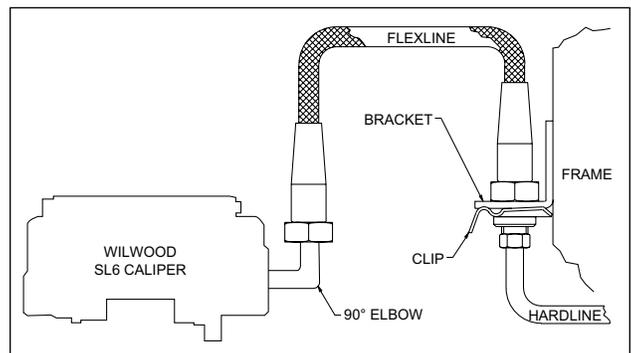

Figure 4. Brake Line Diagram
- Install Wilwood's optional stainless steel braided flexline hose kit, part number 220-8338 (**NOT included in kit**), see Figure 4. **NOTE:** OEM rubber brake hoses generally cannot be adapted to Wilwood calipers. The caliper inlet fitting is a 1/8-27 NPT (use PTFE tape on pipe threads of adapter fitting for proper sealing to caliper). The preferred method is to use steel adapter fittings at the caliper, either straight, 45 or 90 degree and enough steel braided line to allow for full suspension travel and turning radius, lock to lock. **Carefully route lines to prevent contact with moving suspension, brake or wheel components.** Wilwood hose kits are designed for use in many different vehicle applications and it is the installer's responsibility to properly route and ensure adequate clearance and retention for brake hose components.